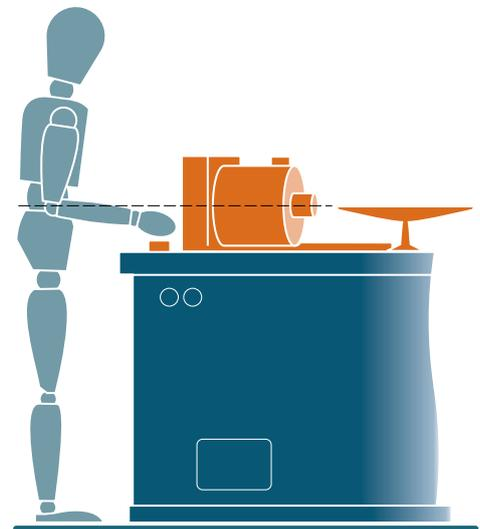

Figure 2 Checking lathe for correct working height
- It is also important that machinery is at the correct height. For example, with a lathe the ideal machine height can be found by checking that the tip of the operator's elbow, with their arm bent, aligns with the centre of the headstock (see Figure 2); with a band saw, the hand should rest comfortably on the table (when standing upright with the small of the back tucked in).